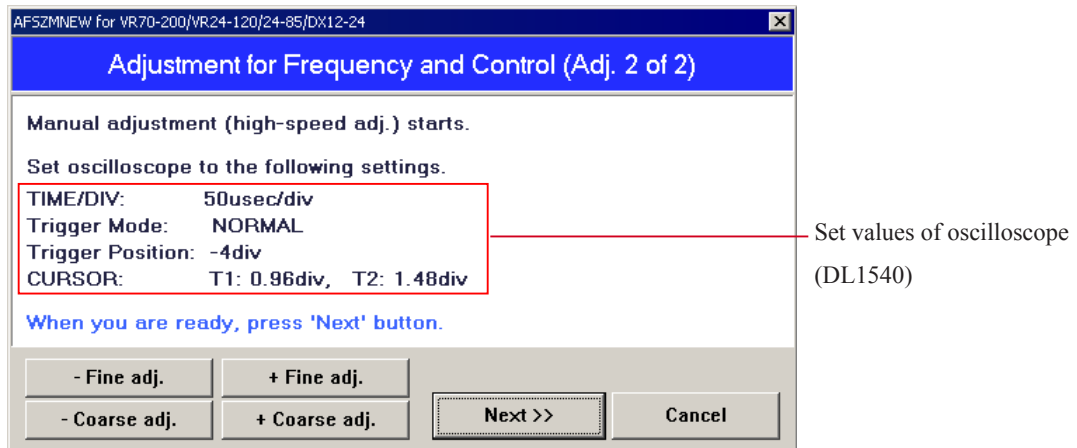

Fig.4
Make the high-speed adjustment of "Fig.4" by the same procedure as in the low-speed adjustment.
- "Fig.2" on Page L56-8 shows setting values for low-speed adjustment, while "Fig.4" on Page L56-9 shows those for high-speed adjustment.
- Because TIME/DIV, T1, T2, and other setting values are different between the low-speed adjustment and high-speed adjustment, check the values by referring to "Fig.2" on Page L56-8 and "Fig.4" on Page 56-9.